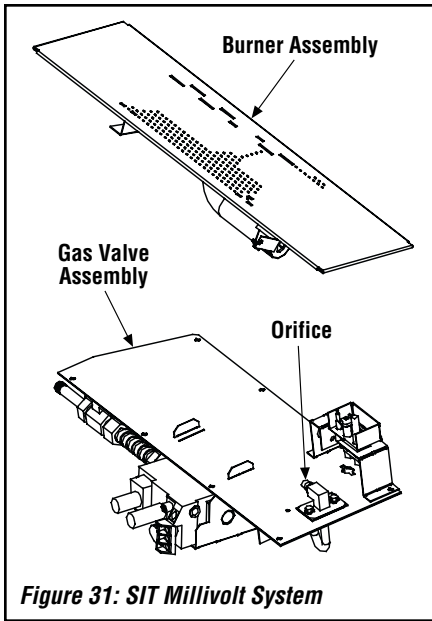

Figure 31: SIT Millivolt System
Step 4. Refer to *Figure 31*. Remove the burner assembly with attached venturi tube.
Step 10. Refer to **Figure 31**.